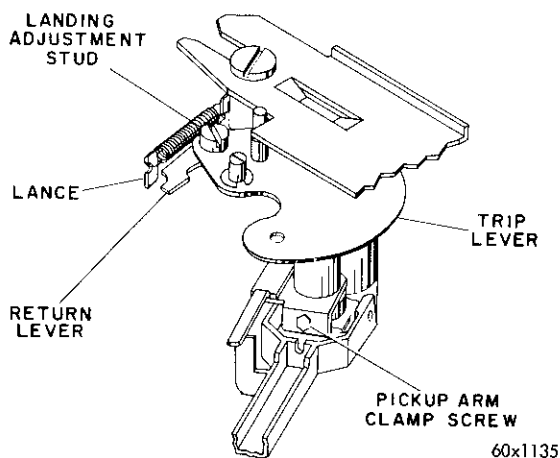

Fig. 45—Pickup Arm Landing Adjustment
- (b) Stop dog may bind in pivot (Fig. 45).
- (e) Insufficient friction between clutch plate and ratchet wheel (Fig. 45).
- (f) Inspect clutch plate for presence of grease or oil (Fig. 45).
- (b) Stop dog may be improperly adjusted (Fig. 45).
The time during cycle at which the record drops from the spindle is controlled by means of an eccentric stud located on the end of cycling slide (Fig. 45).